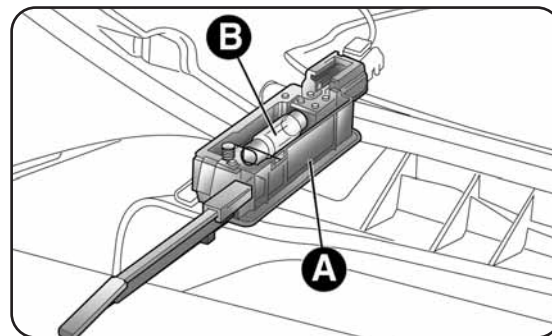

fig. 35
- open the glove compartment, and remove light A-fig. 35;